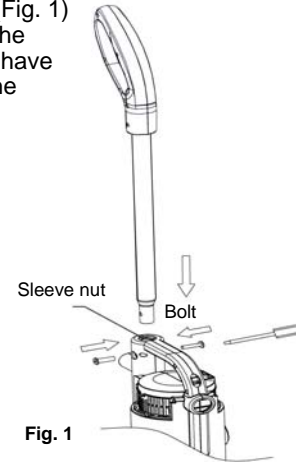

Fig. 1
- Insert the handle into the hole on the top of the unit. Make sure that the slot in the handle fits correctly into the opening. (Fig. 1)
- Insert the sleeve nut into the unit first. Then holding the sleeve nut with your thumb, insert the bolt. Using a flat screw driver, secure the bolt to the sleeve nut. (Fig. 1)